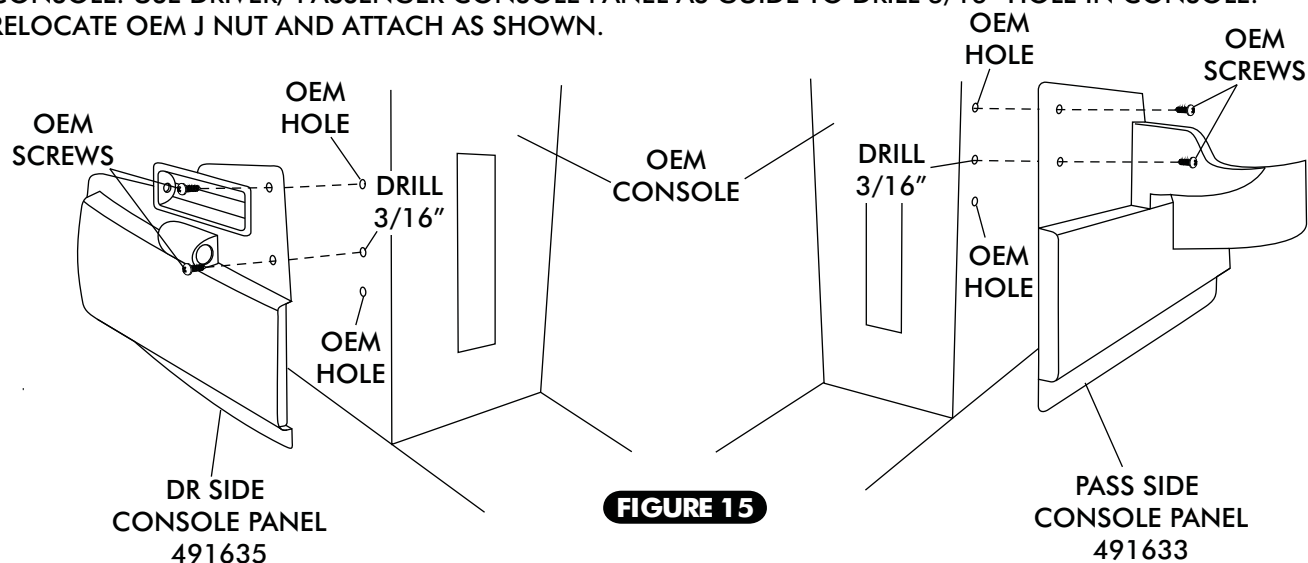

FIGURE 15
- ☐ INSTALL DRIVER AND PASSENGER SIDE CONSOLE PANELS USING OEM SCREWS AS SHOWN BELOW IN FIGURE 15. **NOTE:** LOWER MOUNTING HOLE MUST BE DRILLED IN OEM CONSOLE TO MOUNT NEW CONSOLE. USE DRIVER/ PASSENGER CONSOLE PANEL AS GUIDE TO DRILL 3/16" HOLE IN CONSOLE. RELOCATE OEM J NUT AND ATTACH AS SHOWN.